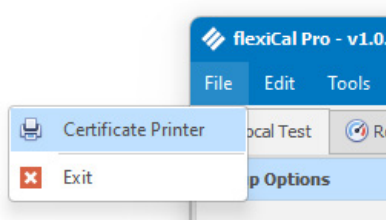

Figure 3-29: Certificate Printer
2. Open the front panel door and insert an empty USB flash drive into the USB port located in the front of the GDUnet PCB, as illustrated in Figure 3-29.